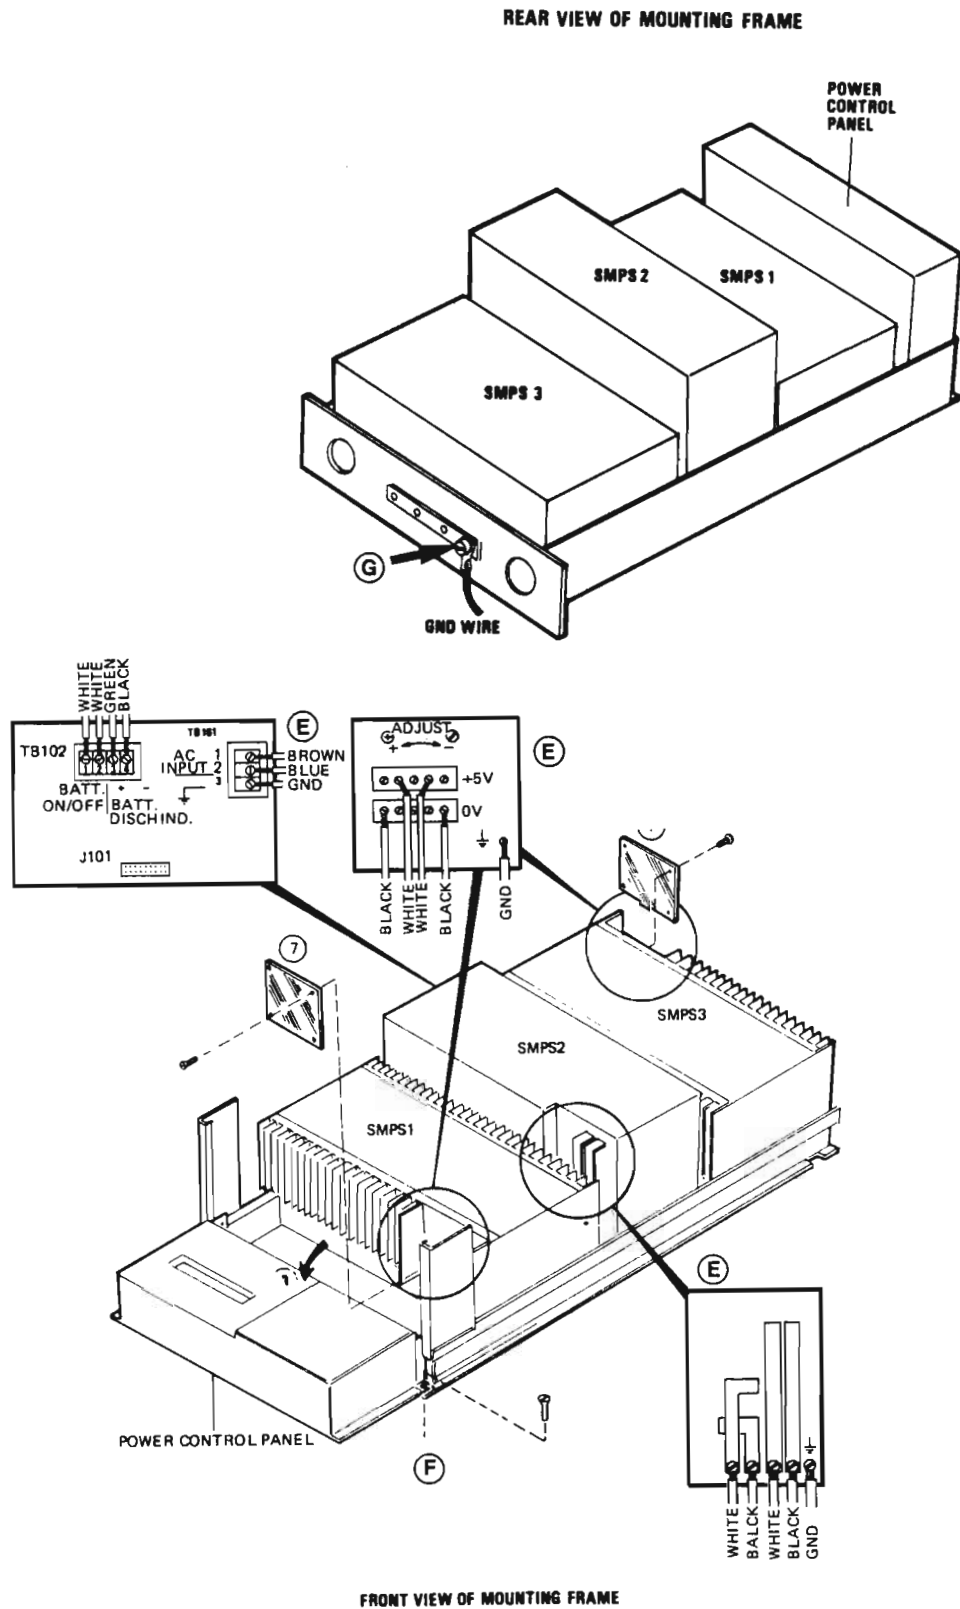

Figure 20. Removing a Power Supply from the Frame
- (7) Disconnect the power-output cables (E) from the power supply (see fig. 20)
- (8) Disconnect the ground wire at the rear of the power-supply mounting frame by:
- loosening the two screws (F) holding the power-supply rails fastened to the power-supply mounting bracket.
- unscrewing the screw (G) holding the ground wire (2 wires if SMPS⁴ is present).
- (9) Pull the power-supply assembly out of the cabinet until it stops.